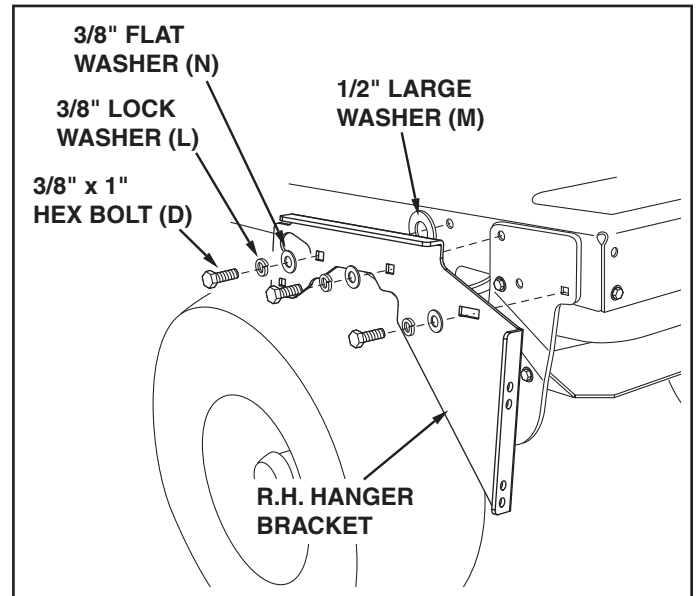

FIGURE 6
STEP 6: (SEE FIGURE 6)
- Attach the R.H. hanger bracket to the two front empty holes on the right side of the tractor frame using two new 3/8" x 1" hex bolts (D), 3/8" lock washers (L), and 3/8" flat washers (N) as shown. For the rear hole, use a 3/8" x 1" hex bolt (D), 3/8" lock washer (L) and 3/8" flat washer (N) with a large 1/2" washer (M) placed between the hanger bracket and the tractor frame. **Tighten.** Repeat for the left side.
- Assemble the two angle lock bars together as shown in figure 6, so that all holes are aligned. Use one 3/8" x 1-1/4" carriage bolt (E) and one 3/8" nylock nut (L). Be sure to insert bolt from side indicated. **Do not tighten at this time.**